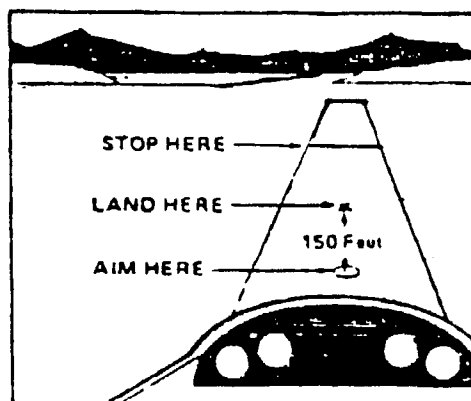

FIGURE 9-2
a. A good landing starts with a good final approach, which begins as you roll out on final leg with at least 300' AGL. On final approach, the sailplane is guided to an "aimpoint" and then "flared" to arrest the descent rate and reduce the speed to make for a soft touchdown. On the landing roll out, the airplane is brought to a stop by rolling friction or the wheel brake. Figure 9-2 shows the relationship of the aimpoint, touchdown point, and stopping point. Normally, the stopping point is fixed. You must select an aimpoint appropriate for the prevailing wind condition so that you can stop at the desired place. A strong head wind, for example, would help you slow the airplane on landing roll out. So, you'd want to select an aimpoint closer to the stopping point. Select an aimpoint on downwind so that you know when to turn base. (Reference paragraph 9-3d.) As a guide, move the aimpoint into the wind one "hash mark" off the runway centerline stripe (approximately 100') for each five knots of headwind. For a tailwind, move it back.